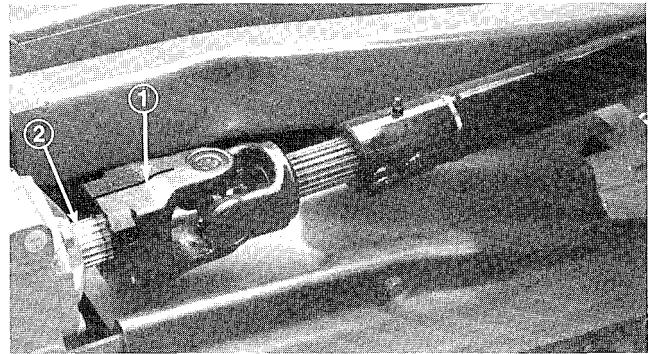

Figure 60
5. Remove socket head screws securing drive shaft yoke gear box input shaft. Slide yoke off shaft (Fig. 60).